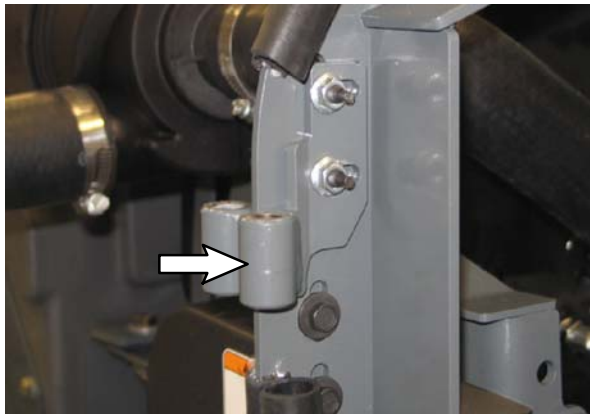

FIG. 61
76. Use two hex screws (11) and two hex nuts (13) to install each engine left rear door hinges (37) onto the support brace (31). Do not completely tighten hardware. Hardware is tightened during later adjustment. (Fig. 61)